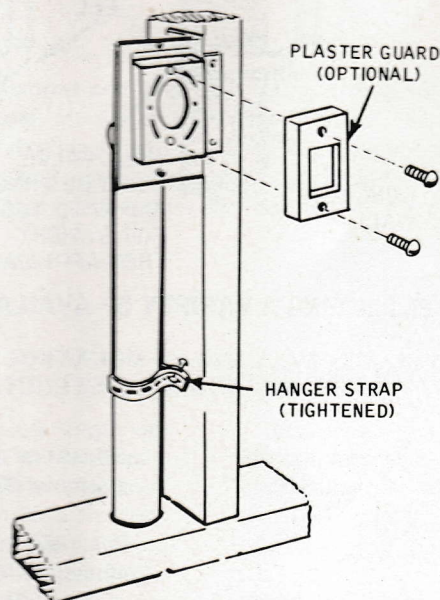

FIGURE 13 – INSTALLING PLASTER GUARD.
7. If wall is to be plastered, screw plaster guard to valve bracket to keep plaster out of elbow and to form opening for later installation of wall valve (Figure 13).